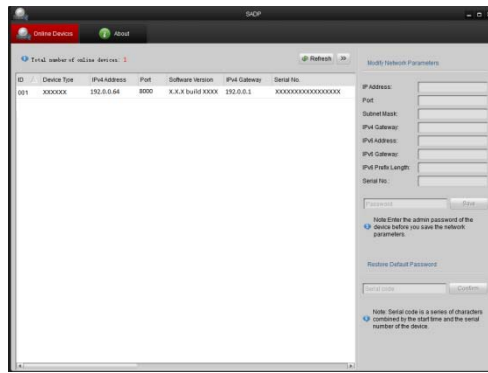

Figure 3-2 Search Online Devices
- ☐ Use SADP, a software tool which can automatically detect network camera in the LAN and list the device information like IP address, subnet mask, port number, device serial number, device version, etc., shown in Figure 3-2.